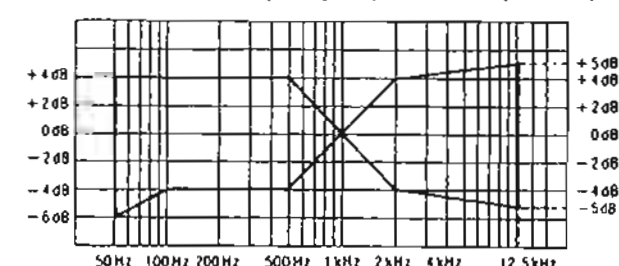

Fig. 9
7. Assure that the level is within the range shown in Fig. 9.